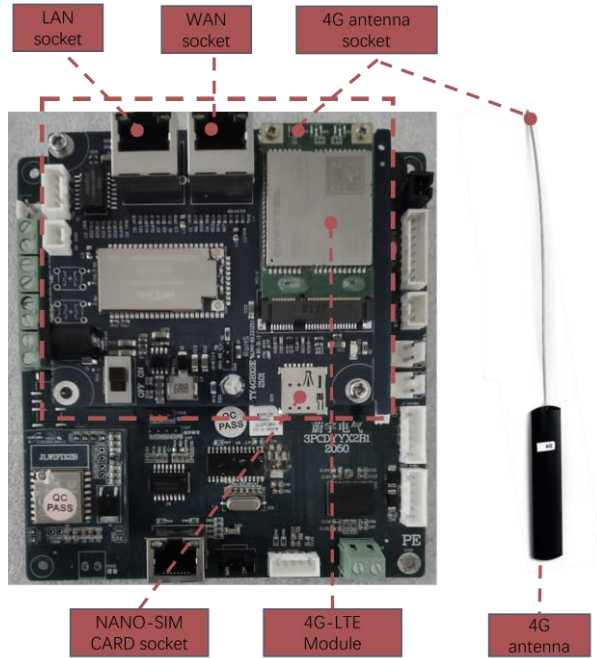

Fig. 5-8 4G PCBA in the charging station
- b) Open the back cover of the charging station with screws. And you should see the PCBAs (shown as Fig. 5-8).